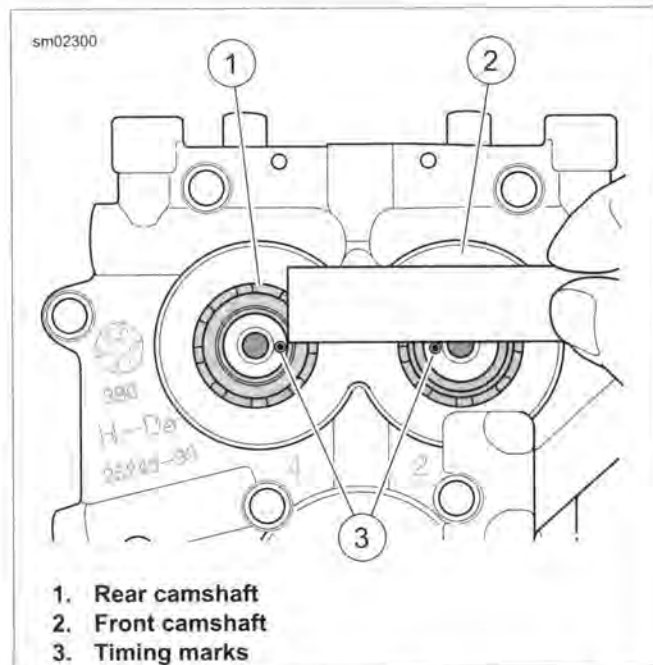

Figure 3-100. Verify Alignment of Timing Marks
4. See Figure 3-100. Verify that the timing marks on the ends of the camshafts are aligned.